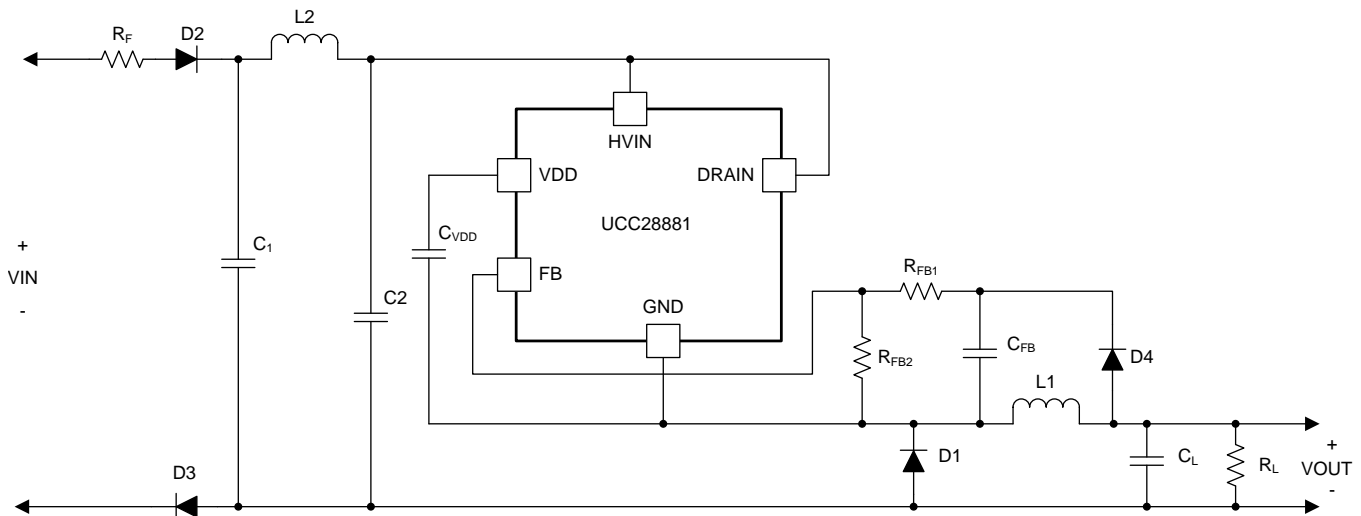

Figure 16. Universal Input, 12-V, 225-mA Output High-Side Buck
The UCC28881 can be used in various application topologies with direct or isolated feedback. The device can be used in low-side buck, where the output voltage is negative, or as a low-side buck-boost configuration, where the output voltage is positive. In both configurations the common reference node is the positive input node (VIN+). The device can also be configured as a LED driver in either of the above mentioned configurations. If the application requires the AC-to-DC power supply output to be referenced to the negative input node (VIN-), the UCC28881 can also be configured as a traditional high-side buck as shown in Figure 16. In this configuration, the voltage feedback is sampling the output voltage VOUT, making the DC regulation less accurate and load dependent than in low-side buck configuration, where the feedback is always tracking the VOUT. However, high-conversion efficiency can still be obtained.
Figure 16 shows a typical application example of a non-isolated power supply, where the UCC28881 is connected in a high-side buck configuration having an output voltage that is positive with respect to the negative high-voltage input (VIN-). The output voltage is set to 13 V in this example, but can easily be changed by changing the value of R_{FB1}. This application can be used for a wide variety of household appliances and automation, or any other applications where mains isolation is not required.
- C_{BULK(min)} is minimum value for the total input capacitor value (C1 + C2 in the schematic of Figure 16).
In low-side buck converter the output voltage is always sensed by the FB pin and UCC28881 internal controller can turn on the MOSFET on VOUT. In high-side buck converter applications the information on the output voltage value is stored on C_{FB} capacitor. This information is not updated in real time. The information on C_{FB} capacitor is updated just after MOSFET turn-off event. When the MOSFET is turned off, the inductor current forces the freewheeling diode (D1 in Figure 16) to turn on and the GND pin of UCC28881 goes negative at $-V_{d1}$ (where V_{d1} is the forward drop voltage of diode D1) with respect to the negative terminal of bulk capacitor (C1 in Figure 16). When D1 is on, through diode D4, the C_{FB} capacitor is charged at $V_{OUT} - V_{d4} + V_{d1}$. Set the output voltage regulation level using Equation 16.
- R_{FB1} , R_{FB2} is the resistance of the resistor divider connected with FB pin (see Figure 16)